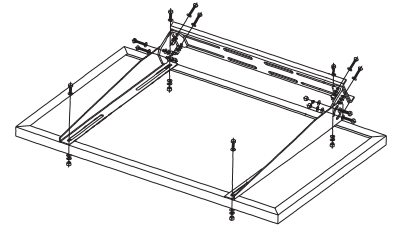

figure 1
Step1. Attach the PV module to the mounting bracket using the nuts, bolts, washers, and lock washers provided. See **figure 1**. Caution: If additional holes on the frame of the PV module are needed, great care must be used when drilling. Damage to the module can easily occur rending it useless. You may find it helpful to lubricate the nut and bolt to facilitate easy removal at a later date.